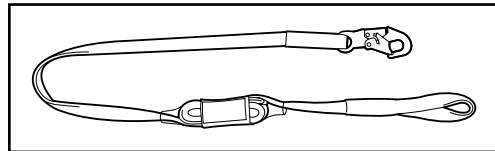

Figure 1: Loop Lanyard
4.1.3 For Lanyards with Loop attachment: Always connect the loop to the harness D-ring or D-ring loop (See figure 1).